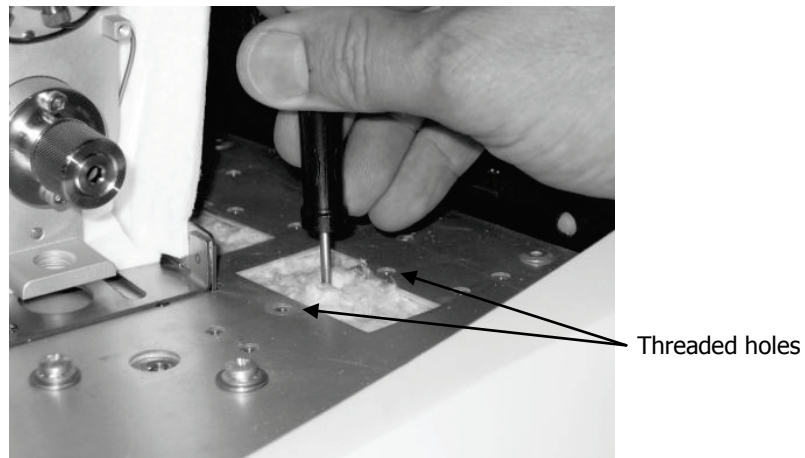

Figure 17 Piercing a hole in the oven insulation
7. Using a screwdriver, pierce the insulation at the top of the oven to form a hole with an approximate diameter of 12 mm, aligned with the threaded fixing holes (Figure 17).